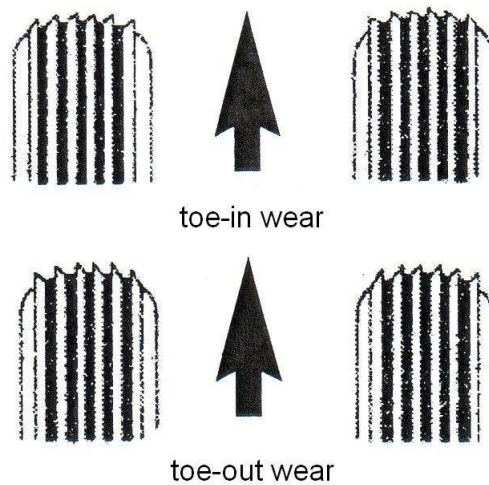

Figure 5: serrated wear
7. Serrated or flaky tread wear in the transverse direction is usually found on the outside or inside and can be felt easily by hand when the hand is moved over the tyre (figure 5). In one direction the tyre resistance will be greater because of protruding ridges. This form of excessive tread wear is usually caused by deviations in the tracking. Ridge-forming facing inwards signifies too much toe-in. Ridge-forming facing outwards signifies too much toe-out. Defects in the suspension, the control and load differences also cause serrated tread wear. This form of wear can also be caused by "rally driving" (four-wheel drive). There may also be damage to the wheel guide or collision damage.